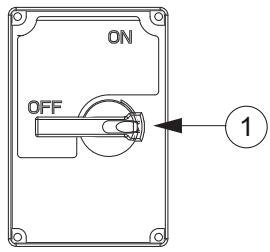

fig. 64 Stop the Neck Skin Cutting Module
- Turn disconnect switch 1 to the off position. See fig. 64.